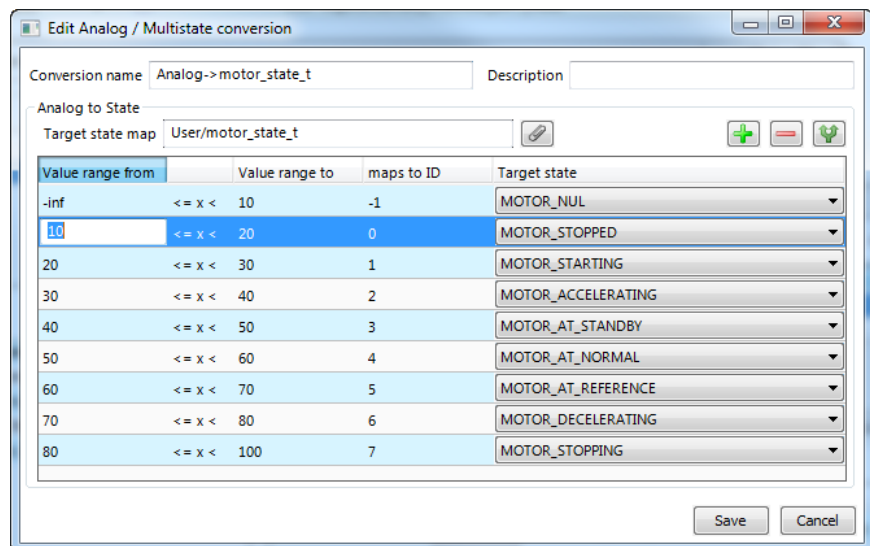

Figure 44: Edit an analog to multi-state conversion.
10. An example for editing an analog to multi-state value conversion is shown in Figure 44. Enter a **Conversion name**, then edit the **Value range from** column and select the desired **Target state** mapping.